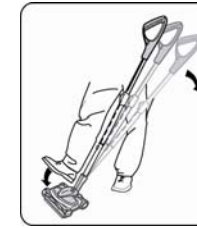

Fig. 7
3. To release the handle to a comfortable position, gently apply pressure to the top of the sweeper head with your foot while pulling back on the handle. (Fig. 7)